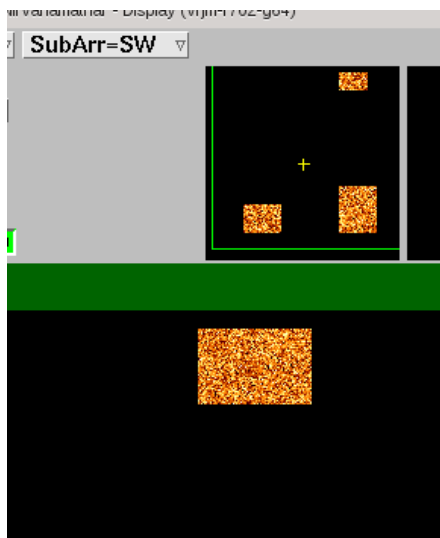
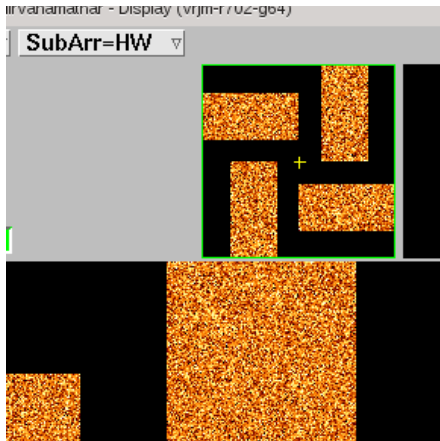

Figure 19: Subarray menu of Figure 15 with the “software” windows.
Figure 20: Subarray menu of Figure 15 with the “hardware” windows.
- **SubArrays** Relocates the frames read as subwindows specified by the `subwin` command into the full detector geometry on a black background. The two available choices are (i) to show the windows that will actually be stored in the FITS files (Figure 19) or (ii) to show the information sent from the ROE to the workstation (Figure 20) prior to the additional clipping. Many examples of this look are shown in the “Subarrays” section of [12]. The
There is some potential impact on setting up exposures: The cycle time of the exposures is “spent” by the read-out and ADC conversion to generate the wider set of data shown in Figure 20, which is then cut into the smaller pieces by GEIRS on the workstation to the customized slices of Figure 19. Once knowing the geometries of the associated larger “hardware” windows, one could reconfigure the geometry of the “software” windows to span the same, entire area of the “hardware” windows, basically gathering the wider field without any noticeable change in the integration time!